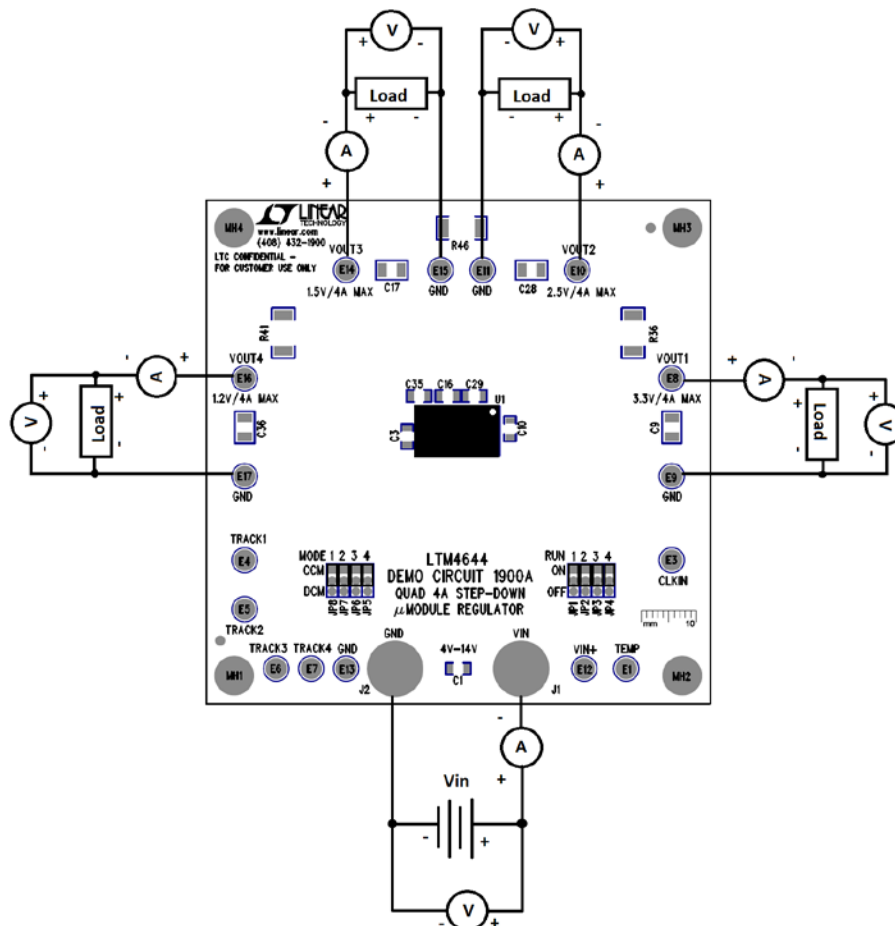

Figure 1. Test Setup of DC1900A
Demonstration circuit 1900A is an easy way to evaluate the performance of the LTM4644EY. Please refer to Figure 1 for test setup connections and follow the procedure below.
3. With power off, connect the loads, input voltage supply and meters as shown in Figure 1.